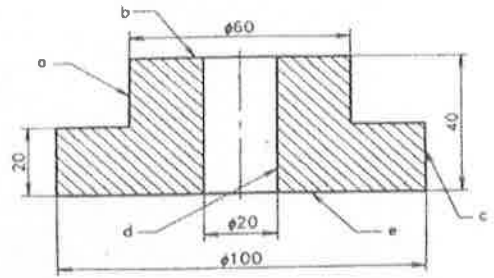

Fig.2
3. Sectional view of a flange is given in Fig.2. Copy the drawing and indicate the surface finish using following roughness grade numbers. Surface a=1.6 $\mu$ m, Surface b=3.2  $\mu$ m, Surface c = 6.3  $\mu$ m, Surface d = 0.8  $\mu$ m, Surface e = 3.2  $\mu$ m (1x15=15)